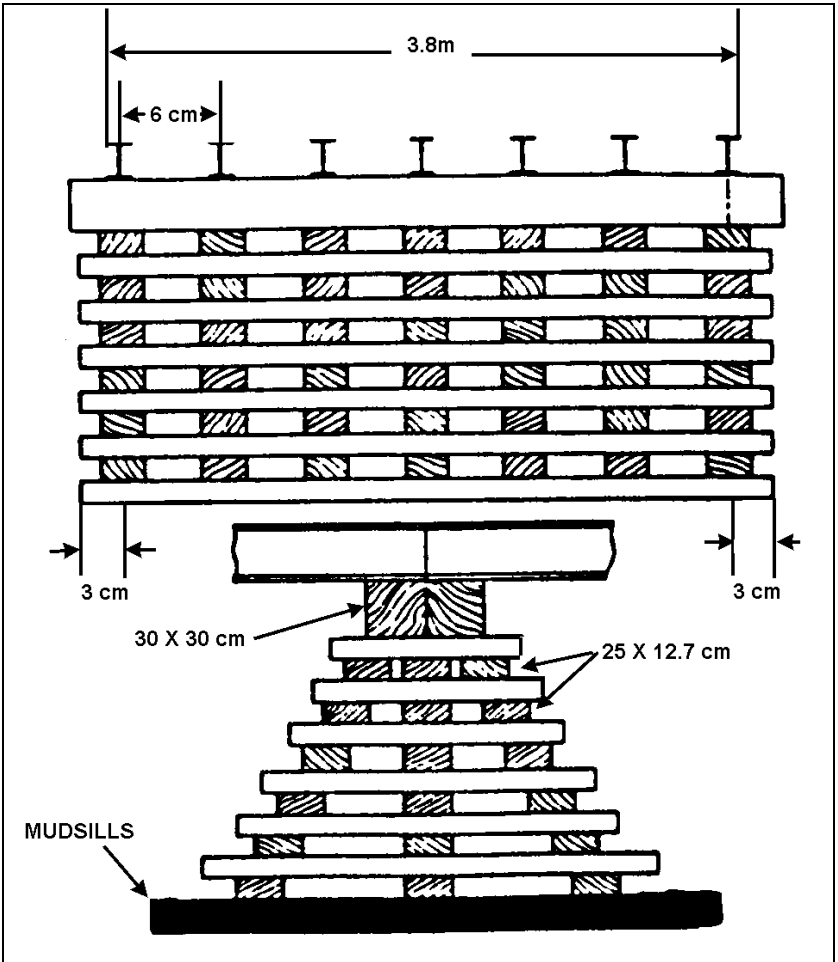

Fig 14-2-1 Timber Crib Pier
1. **Timber Crib Piers.** A typical timber crib pier design using railway sleepers is shown in Fig 14-2-1. Points to note in construction are: